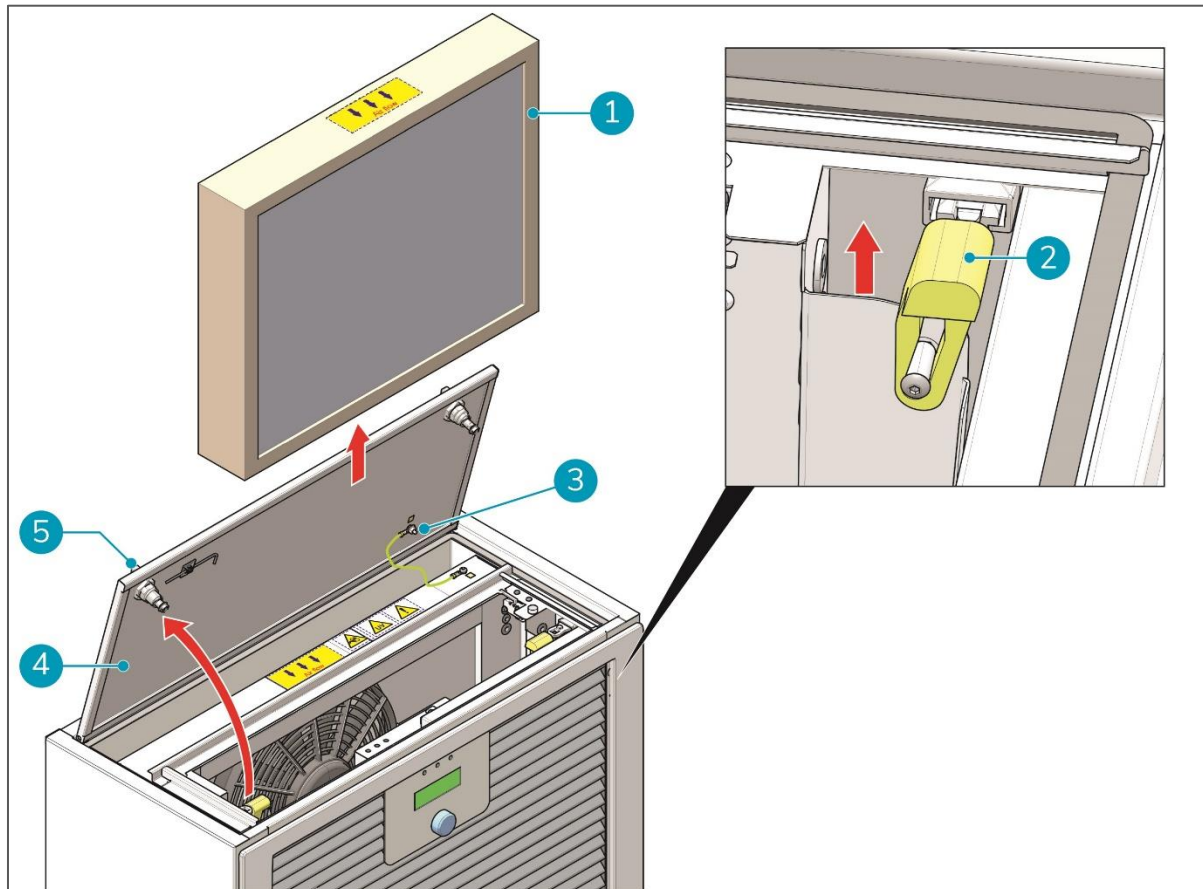

Figure 20
1. Turn the two knobs (Figure 20, pos. 5) on the main HEPA filter compartment panel (Figure 20, pos. 4) counter clockwise until the panel is loose.
**NOTE:** There is a ground wire (Figure 20, pos. 3) connecting the compartment panel and the main i-air Pro unit. **DO NOT** disconnect it.
3. Pull up the two yellow locking levers (Figure 20, pos. 2) to release the filter.
4. Carefully pull out the filter (Figure 20, pos. 1) from the compartment.